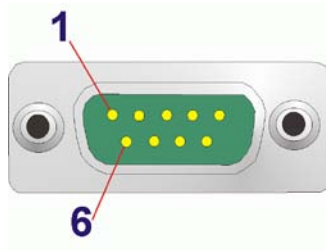

Figure 3-20: Serial Port Pinouts
- CN Pinouts: See **Table 3-17** and **Figure 3-20**